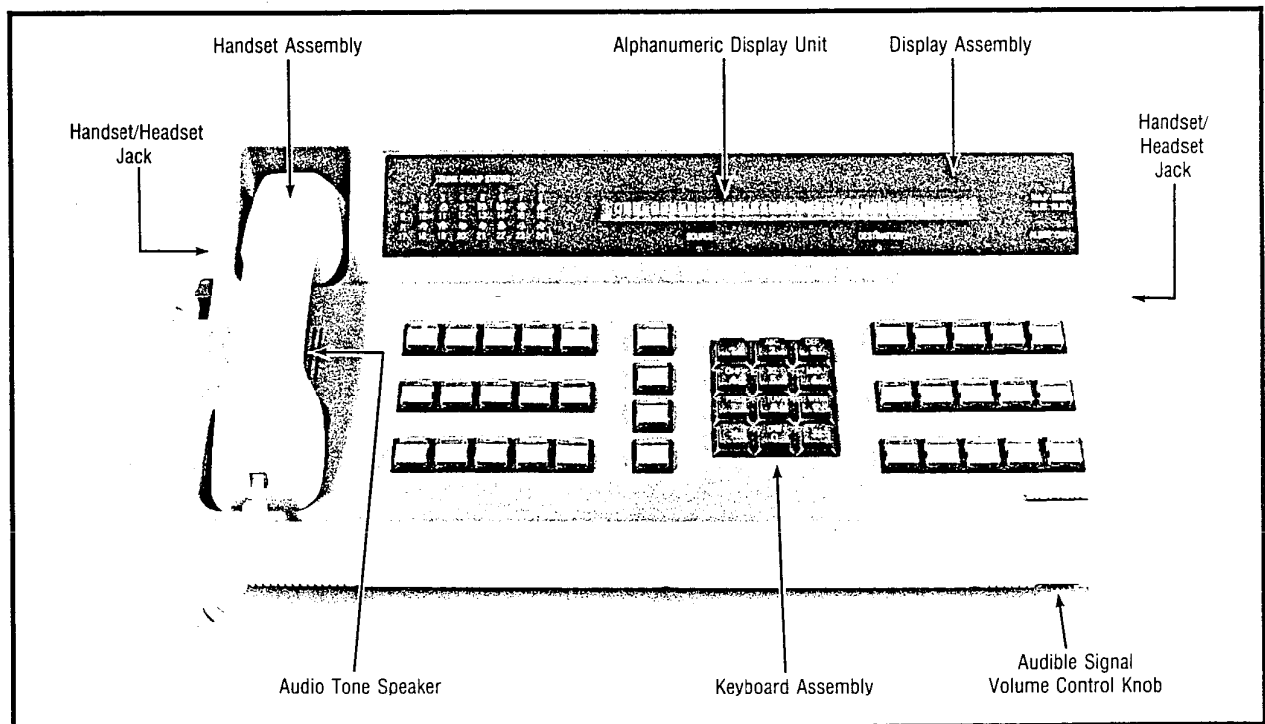

Figure 2.00 Basic Assembly of Attendant Console
**2.02 Physical Characteristics.** The console's circuitry is packaged in a modern-style plastic housing measuring 18.50 inches (46.99 centimeters) in length, 10.42 inches (26.47 centimeters) in width, and 5.15 inches (13.08 centimeters) in height. The console consists of three major assemblies which are briefly described below and shown in Figure 2.00.
**3.04 Audible Signal Volume Control Knob.** The Audible Signal Volume Control Knob, shown in Figure 2.00, is used to control the level of loudness of the audible signal emitted from the audio tone speaker. The audio tone speaker is used to announce the presence of calls on the Call Answer Keys.